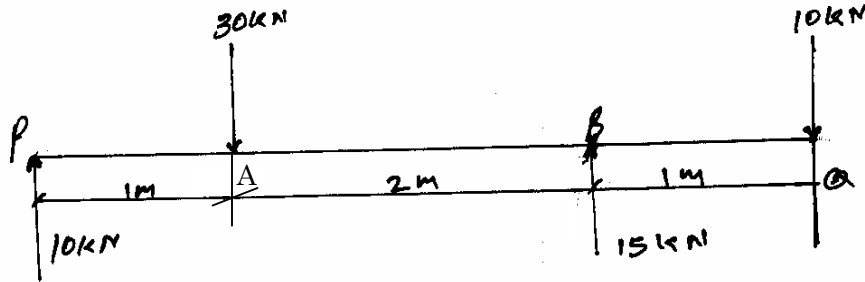

Fig. 3.
- (ii) A rigid rod PQ is acted upon by a system of parallel forces as shown in Fig. 3. Find the equivalent single force for the given system of forces. Also find the equivalent force-moment system at A. Solve the problem using vector method.